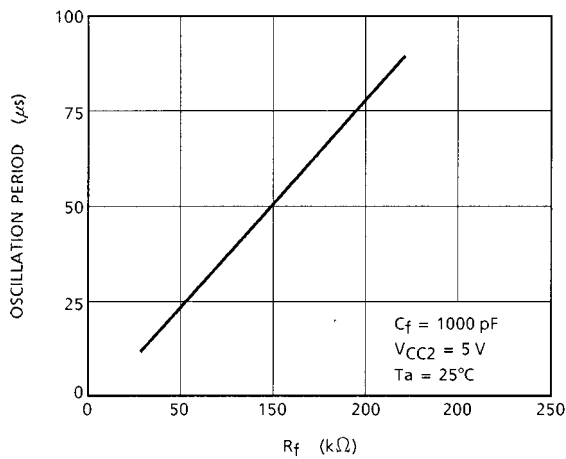
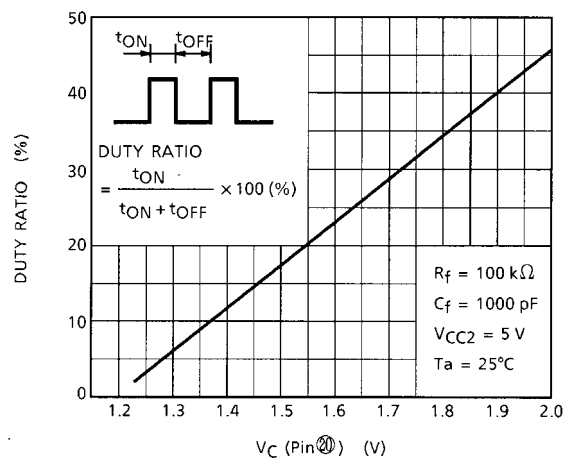

Figure 3 R_f -Oscillation period characteristic
Figure 4 DUTY RATIO- V_C characteristics
Further, R_f and Triangular waveform oscillation period characteristic is shown in Figure 3 and PWM output waveform duty ratio vs. pin (20) voltage characteristic in Figure 4.